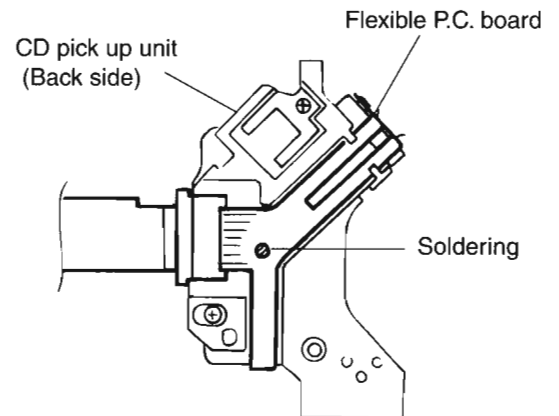

Fig. 15
7. By soldering, fill the position on the back surface of the CD pick up unit (see Fig. 15).